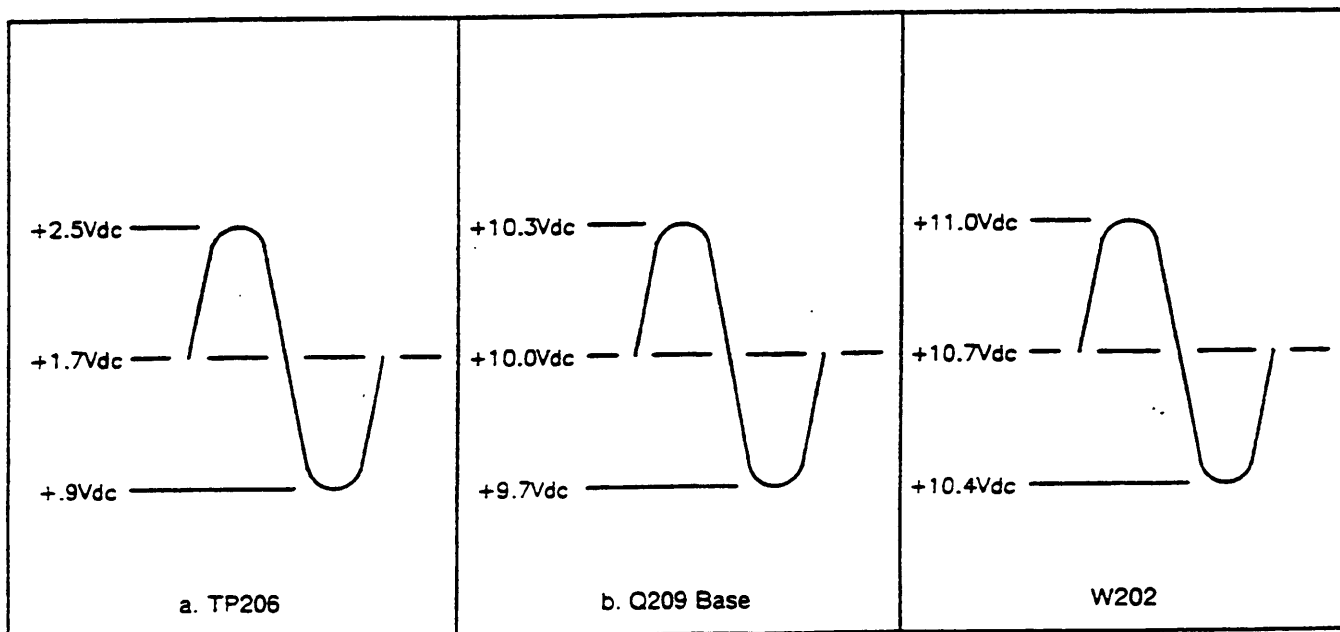

Figure 1. ALC Amplifier Waveforms and Logic Level.
- Using the oscilloscope, check the waveforms as indicated in Figure 1.